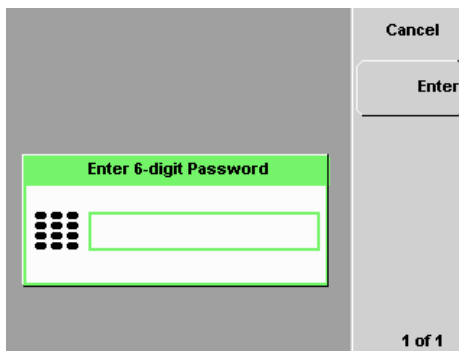

Figure 2-54 Password required to restore display
- 9 Once the screen is blanked, pressing any of the front panel keys will prompt you to enter the password to restore the display (**Figure 2-54**). You are only allowed up to three attempts of password entry.